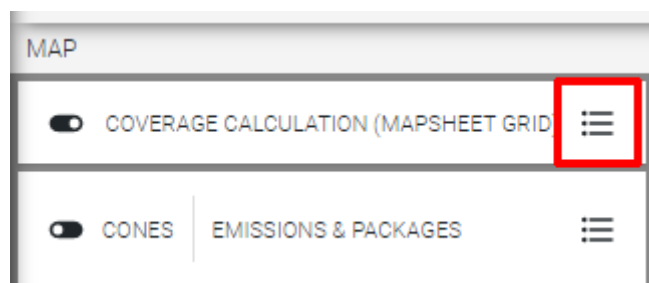

Figure 14 Coverage Calculation Mapsheet Grid Menu Icon
- 1 From the Map screen, click the **Coverage Calculation Mapsheet Grid** menu icon (Figure 14).